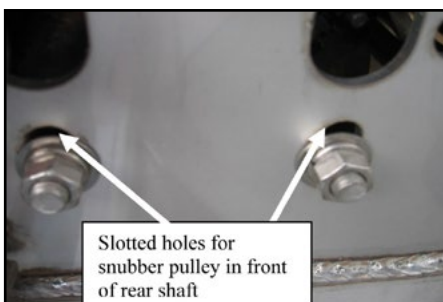

Figure 4
- D. Verify snubber pulley is secure and square. Measure from bearing block to rear of sill on both sides. (Figure 4) Move bearing blocks in the slotted holes as necessary to make measurements equal.